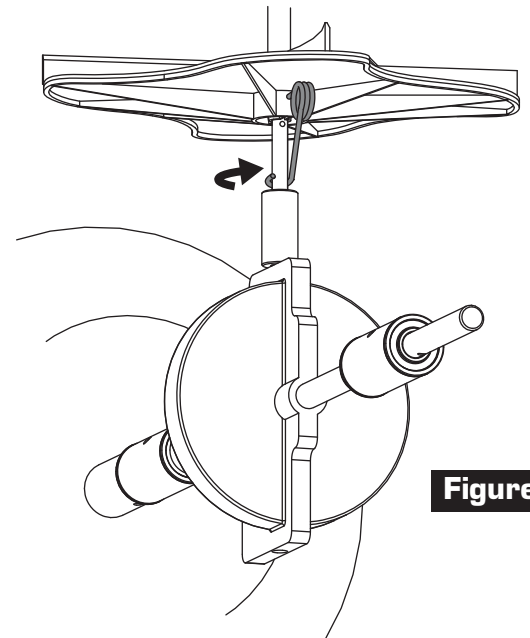

Figure 7
9. Slide coupler all the way down onto the felt washer on the lower spinner shaft, Figure 7. Insert spinner spring through the fan and **upper** hole on the spinner shaft. Wrap spring around shaft and clip into place as shown, Figure 7.